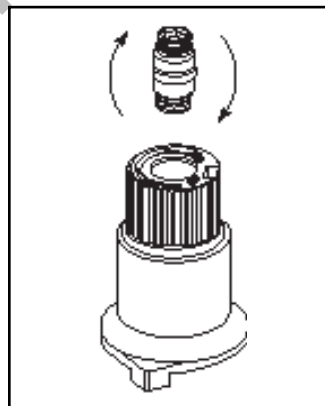

Figure 75
- Check that the screw is clean and if necessary remove dirt. Flip the screw. (Figure 75)